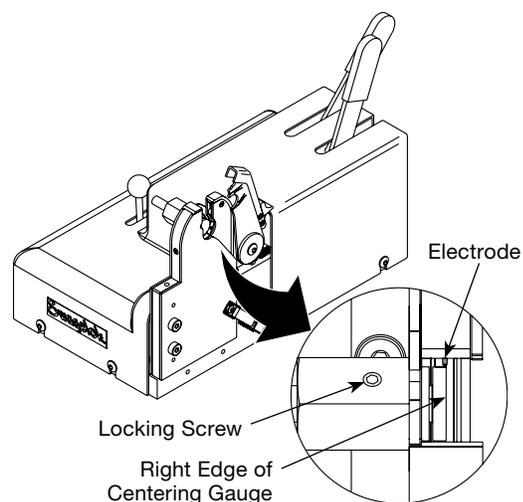

Figure 25 Adjusting the Centering Gauge
4. Adjust the centering gauge so that the right edge is centered on the electrode. See Figure 25.